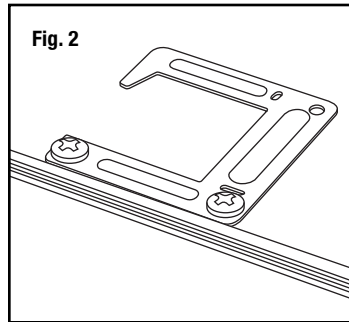

Fig. 2
5. Bend the support clips 90° upwards, then bend 90° outwards until the tips of the support clips are positioned above the T-bars (Fig. 2).